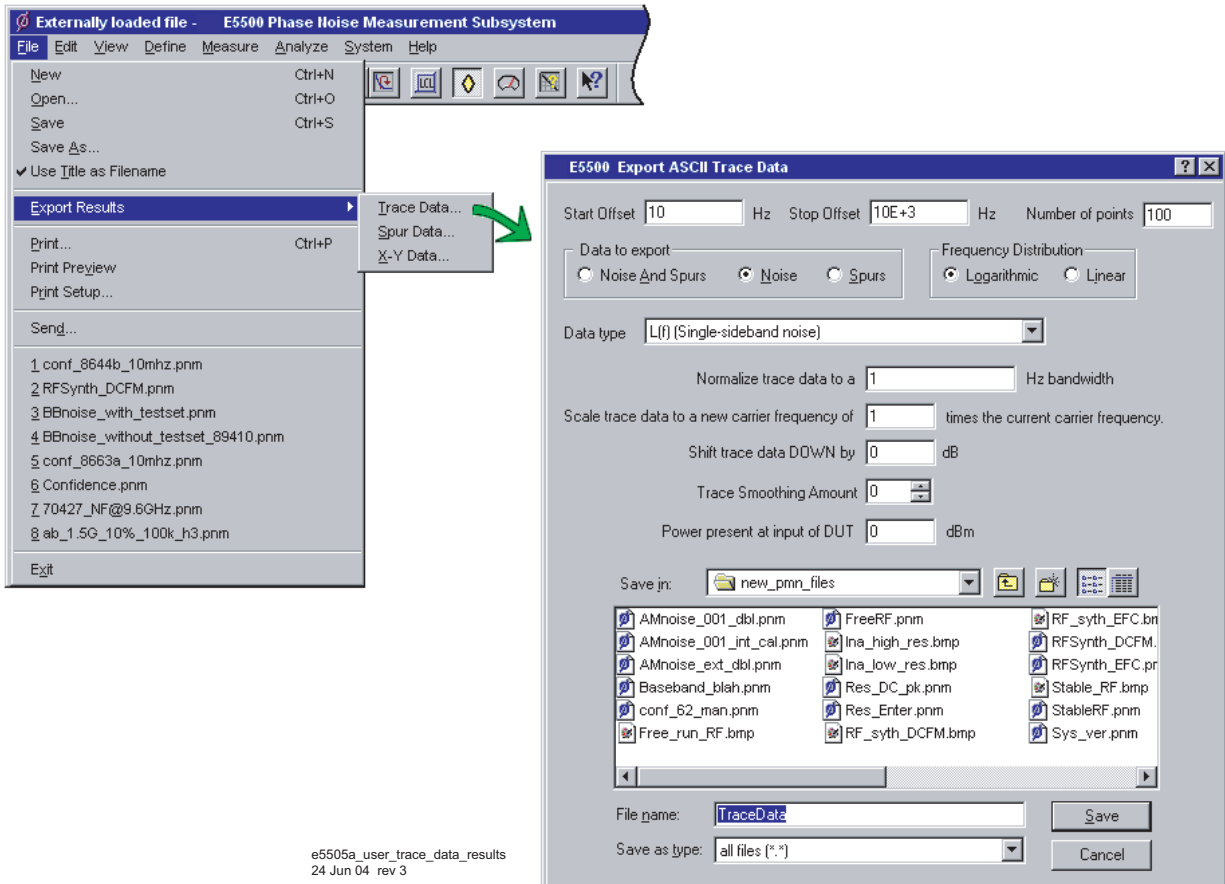

Figure 68 Trace data results
- 1 On the **File** menu, point to **Export Results**, then click on **Trace Data**. See Figure 68 on page 102.